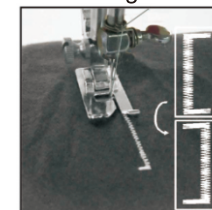

Fig.4
- (5) Raise the presser foot, rotating the cloth for 180° (Fig.4)